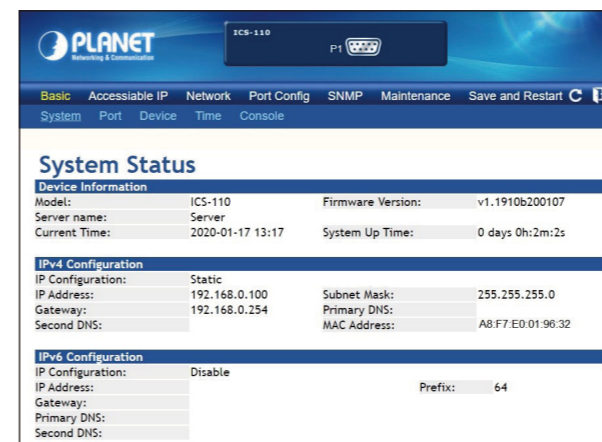

Figure 4-3: Web Main Screen of Serial Device Server
3. After entering the password, the main screen appears as shown in Figure 4-3.